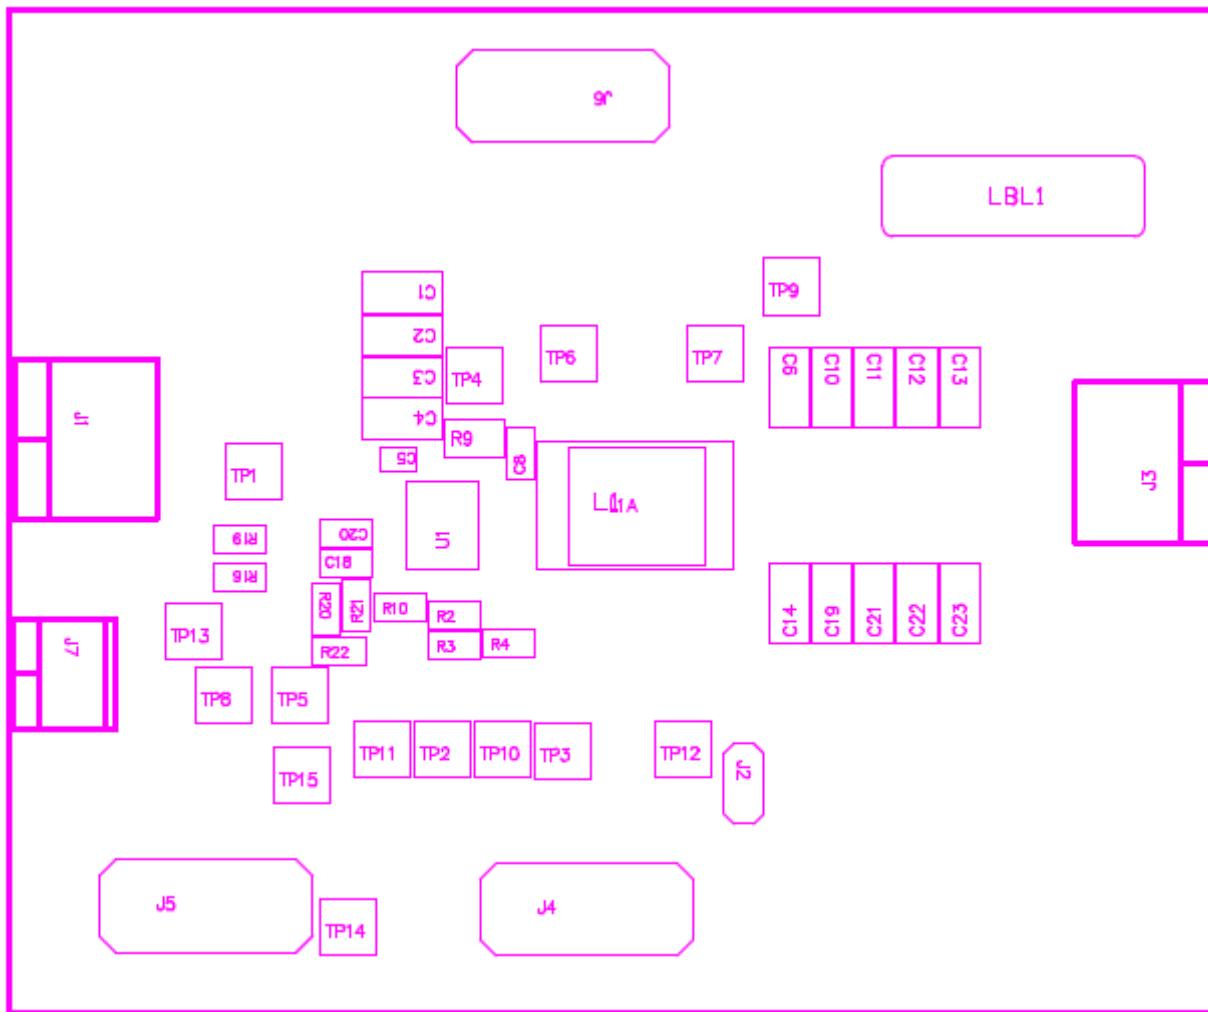

**Figure 5-1. Tip and Barrel Measurement for VOUT Ripple**
- Oscilloscope** A digital or analog oscilloscope measures the output ripple. The oscilloscope must be set for the following: 1-MΩ impedance, 20-MHz bandwidth, AC coupling, 1-μs / division horizontal resolution, 20-mV / division vertical resolution. Test points TP7 and TP9 measure the output ripple voltage by placing the oscilloscope probe tip through TP7 and holding the ground barrel on TP9 as shown in Figure 5-1. Using a leaded ground connection can induce additional noise due to the large ground loop.